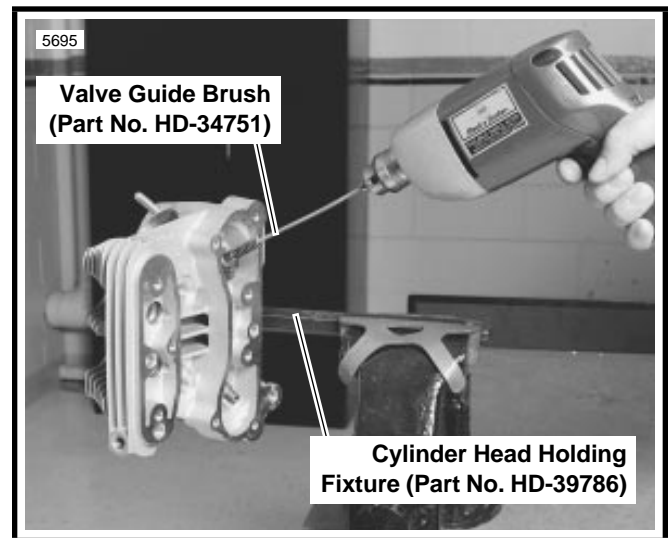

Figure 3-20. Honing Valve Guides
6. See Figure 3-20. Apply the proper surface finish to the valve guide bores using the VALVE GUIDE HONE \(Part No. HD-34723\). Lubricate hone with honing oil. Driving hone with an electric drill, work for a crosshatch pattern with an angle of approximately 60°.